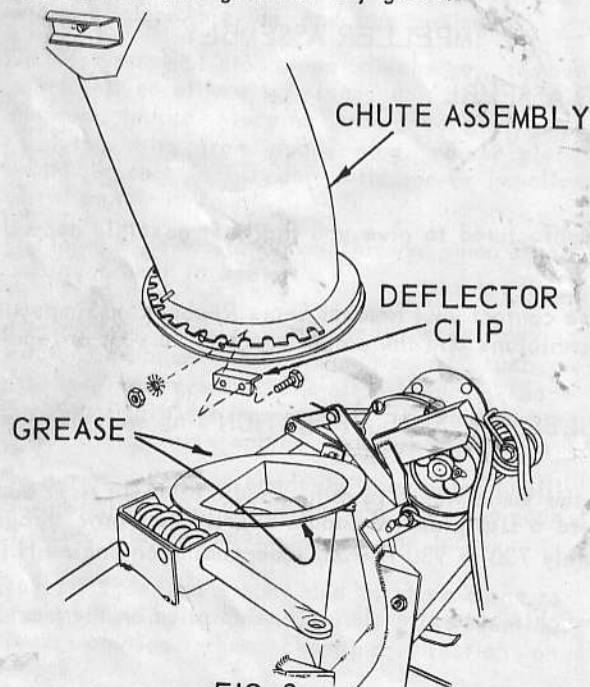

FIG. 2
2. Refer to Fig. 2. Apply grease (pressure gun grease or equivalent) to upper and lower part of deflector flange on housing assembly as shown. Attach chute assembly to housing assembly with 3 deflector clips six $\frac{1}{4} \times \frac{1}{2}$ hex bolts, lock washers and hex nuts as shown. Tighten nuts securely.